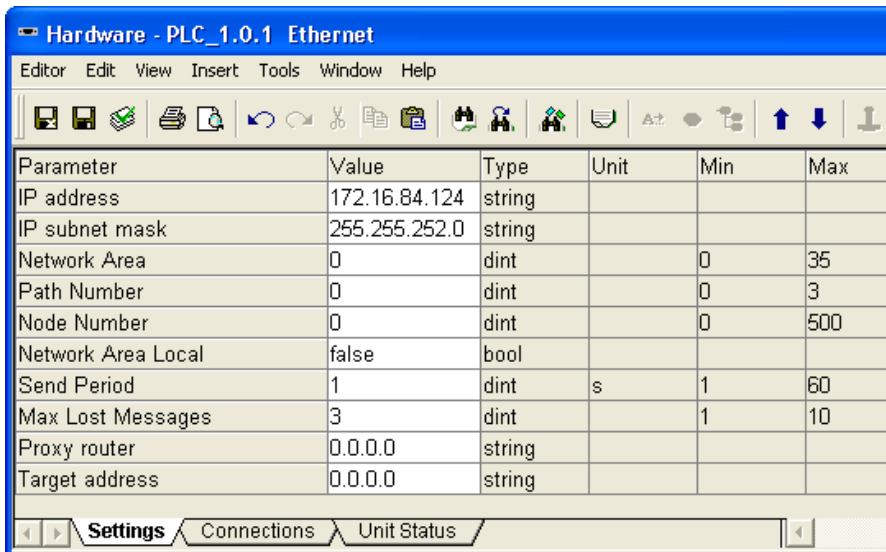

Figure 61. IP address for PLC Ethernet port at position 1 (in this case 172.16.84.124 which is the same IP address as given in System Identity)
5. Select the **Settings** tab (lower left corner, see Figure 61) and enter the IP address in the IP address Value field.